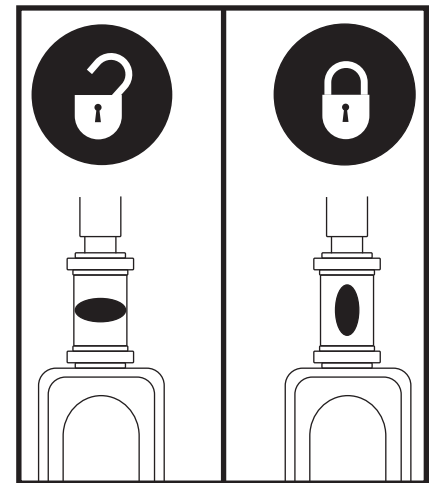

Figure 32. Tiller Lock Knob
2. Lock the tiller in the straight ahead position by pushing the tiller lock knob in and turning it clockwise 90°. See **figure 32**. The front wheel must face forward in order to lock the tiller.
1. Remove the key from the key switch and then lock the tiller in the straight ahead position by pushing the tiller lock knob in and turning it clockwise 90°. See **figure 32**. The front wheel must face forward in order to lock the tiller.
6. Unlock the tiller by turning the tiller lock knob 90° counterclockwise. See figure 32.